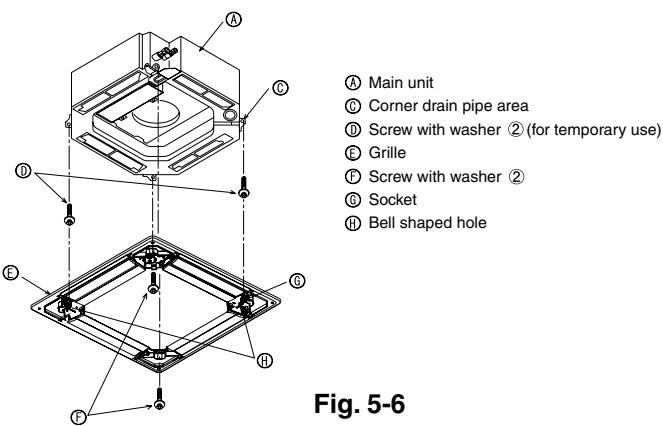
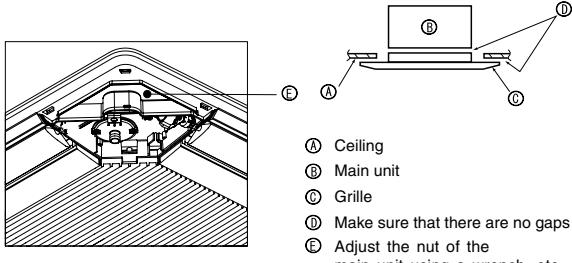

Fig. 5-6
Fig. 5-7
5.4.2. Temporary installation of the grille (Fig. 5-6)
- Temporarily secure the grille using the bell shaped holes by putting the socket of the grille marked ④ on the corner drain pipe area of the main unit.
5.4.3. Securing the grille (Fig. 5-7)